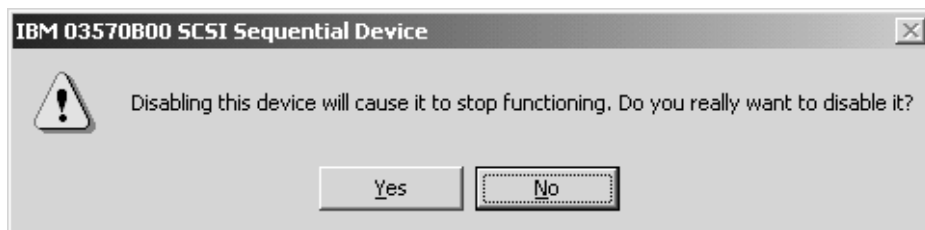

Figure 48. Disable Device Menu
3. Click Yes to disable the device. See Figure 48.